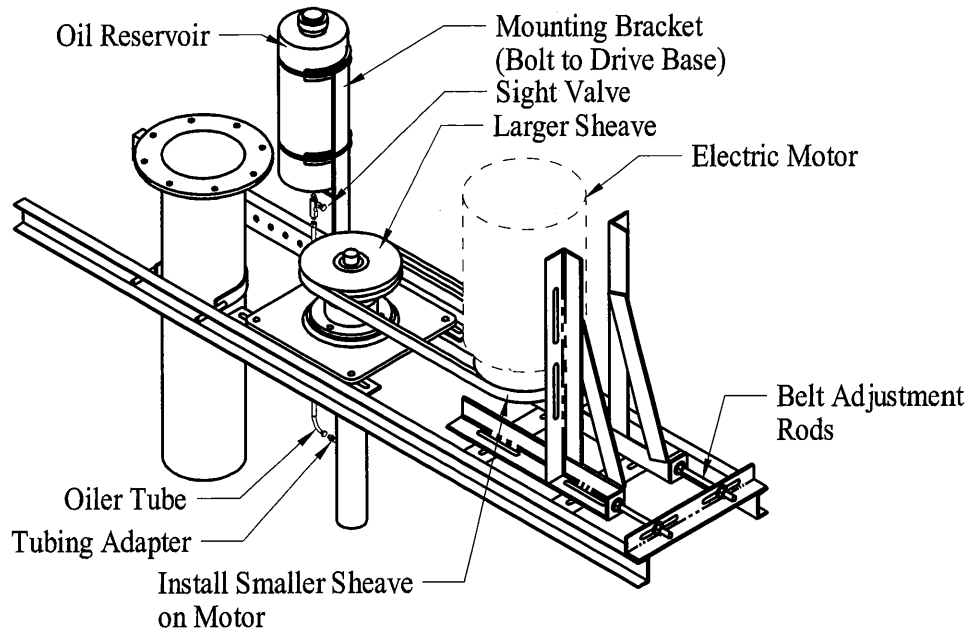

FIGURE 11.
7. Thread the sight valve into the bottom of the reservoir, and thread the tubing adaptor into the threaded hole in the drive column. Slide tube nuts and compression fitting onto the oiler tubing and secure the tube to the sight valve and tubing adaptor. See Figure 11.